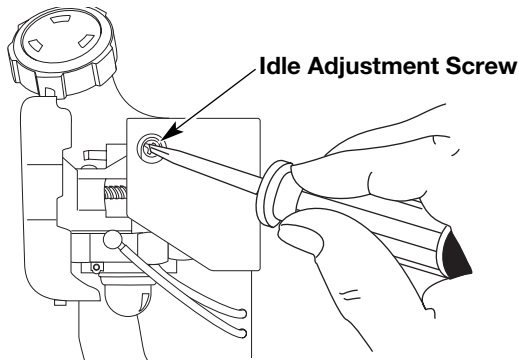

Fig. 32
2. Release the throttle trigger and let the engine idle. If the engine stops, insert a small phillips or flat blade screwdriver into the hole in the air filter/muffler cover (Fig. 32). Turn the idle speed screw in, **clockwise**, 1/8 of a turn at a time (as needed) until the engine idles smoothly.